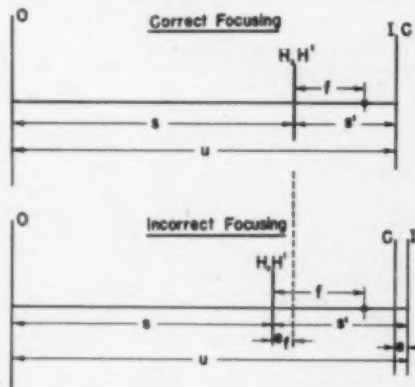

Fig. 5. Error of focusing (e) caused by a deviation (e_t) of the focal length from its nominal value. The lens is parafocalized for infinity.
b) *The lens is parafocalized for infinity.* This case is illustrated in Fig. 5. In the absence of other errors, the parafocalization of a lens, whose focal length differs by e_t from its nominal value, results also in e_t change of the long conjugate. The independent variables are s and f . Consequently, the error of focusing is given by the following equation: